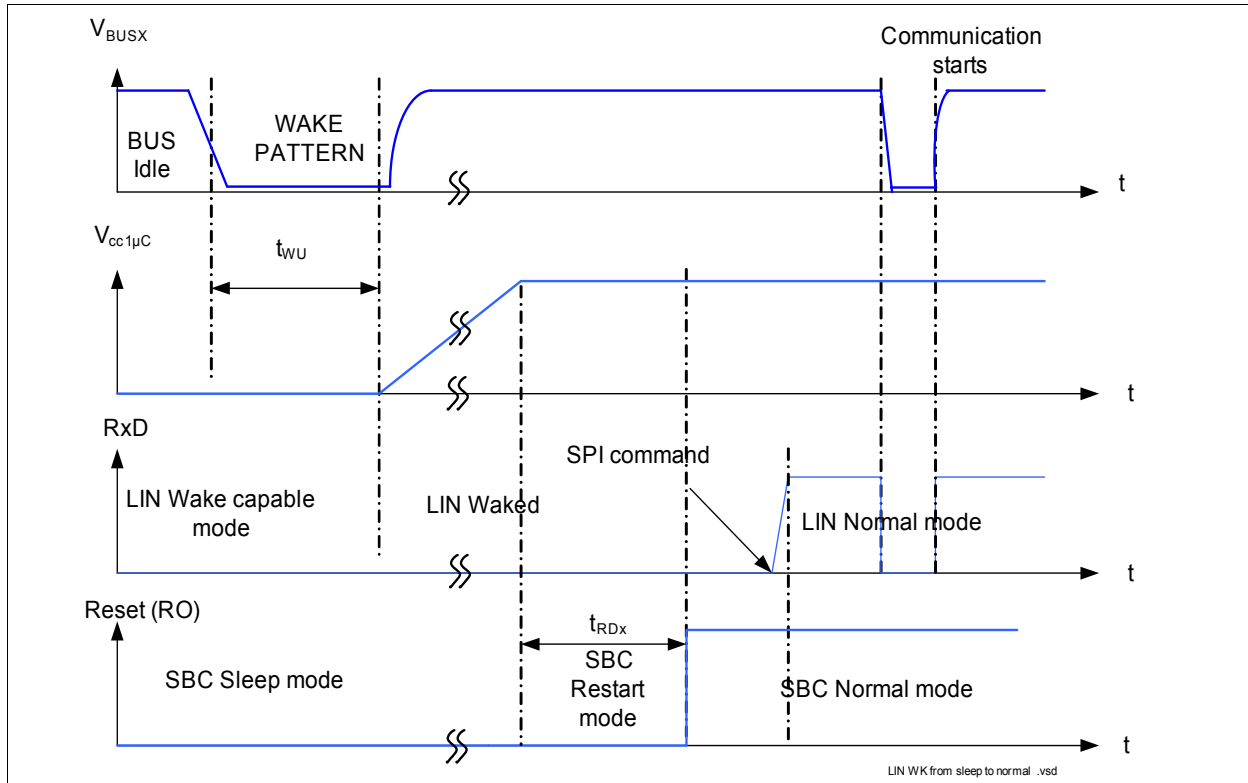

Figure 19 Timing during Transition from SBC Sleep to SBC Normal Mode
Wake-up is possible via a LIN message (filtering time $t > t_{WK,bus}$), it automatically transfers the SBC into the SBC Restart Mode and from there to Normal Mode the corresponding RxD pins in set to LOW, see Figure 19. The microcontroller is able to detect the low signal on RxD and to read the wake source out of the "Wake Register Interrupt" register (000) via SPI. No Interrupt is generated when coming out of Sleep Mode. The μ C can now switch the CAN transceiver into LIN Normal Mode via SPI to start communication.